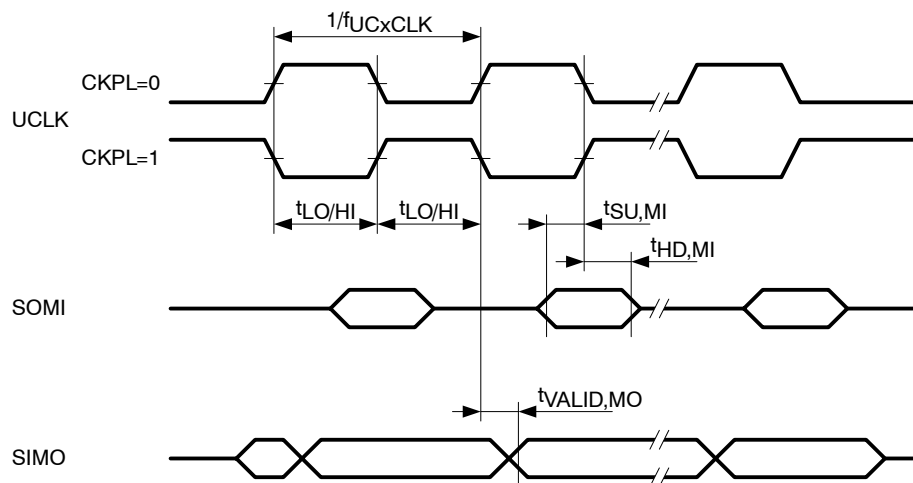

Figure 19. SPI Master Mode, CKPH = 0
**USCI (SPI master mode) (see Figure 19 and Figure 20)**